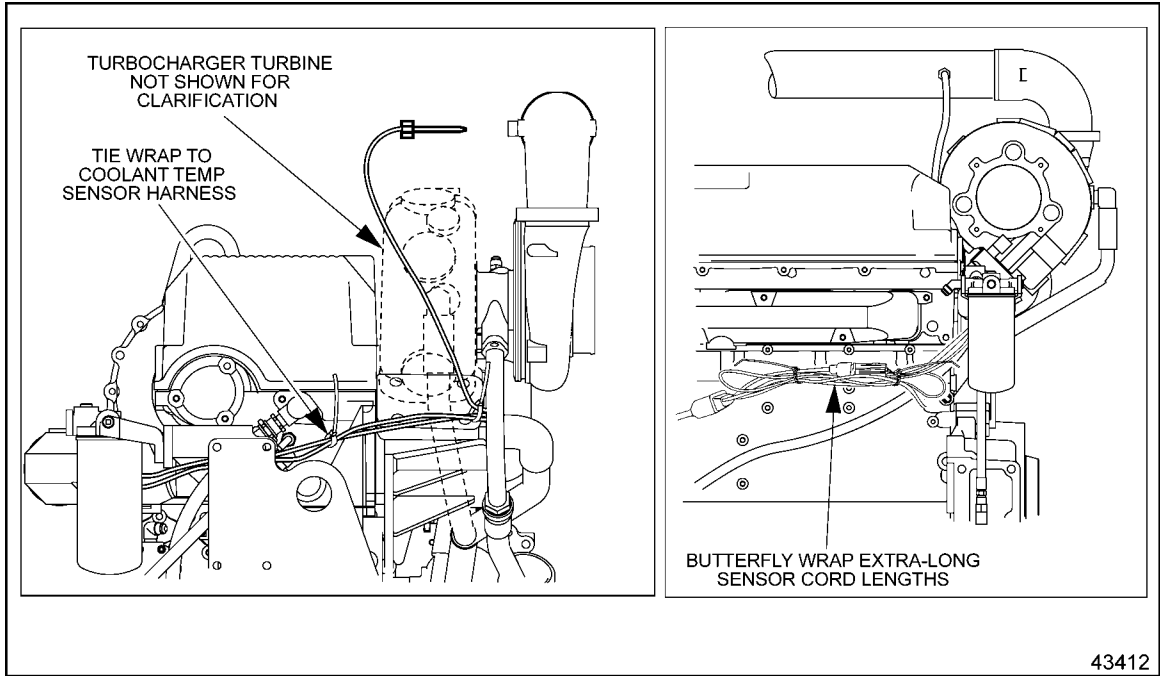

Figure 3 CTO Sensor Harness Routing
6. See Figure 3 and note the arrows for correct sensor harness routing. Use care to route the harness away from the CAC piping and turbocharger compressor. Butterfly wrap the extra-long sensor cord lengths and secure with nylon ties. See Figure 3.